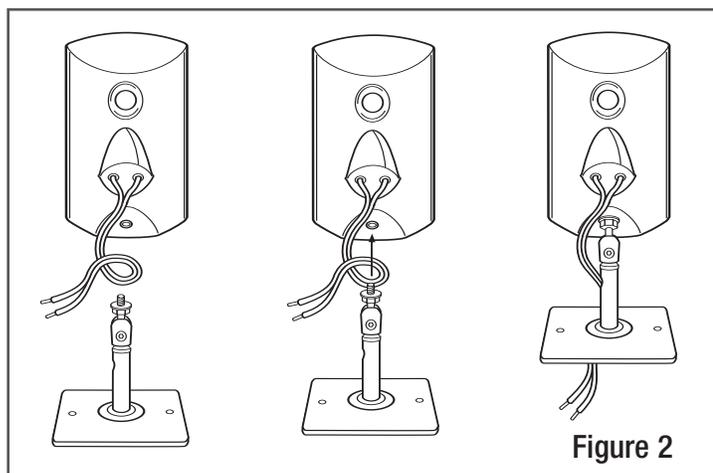

Figure 2
2. Install the Comm Sat Speakers and Mounts. First, attach the Speaker to the Mount post (included with the Mount). Simply thread the post into the speaker until hand tight. Now pull the wire pigtail attached to the Comm Sat through the hole in the Mount tube and plate and make your connections in the box behind the plate. Once you have done this, attach the plate to the box. With the adjustment point on the Mount loose, adjust Speaker direction as desired. Tighten adjustment point on the Mount with the supplied tool after the Speaker is aimed as desired. See Figure 2.